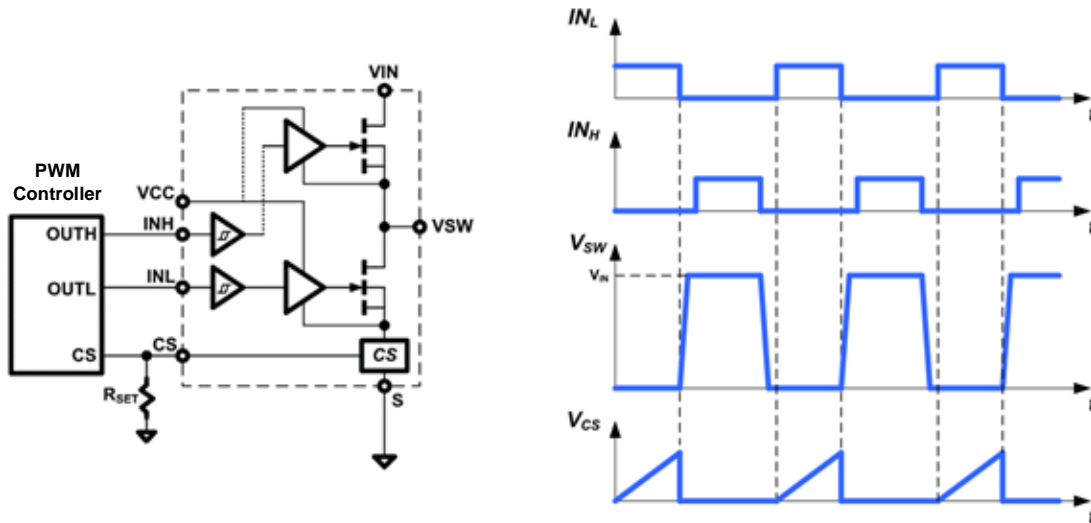

Fig. 29. External resistor sensing vs. GaNSense™ Technology
For many applications it is necessary to sense the cycle-by-cycle current flowing through the low-side GaN power FET. Existing current sensing solutions require a current sensing resistor to be placed in between the source of the low-side GaN power FET and P_{GND}. This resistor method increases system conduction power losses, creates a hotspot on the PCB, and lowers overall system efficiency. To eliminate this external resistor and hotspot, and increase system efficiency, this GaN Half-Bridge IC includes GaNSense™ Technology for integrated and accurate loss-less current sensing. The current flowing through the internal low-side GaN power FET is sensed internally and then converted to a current at the current sensing output pin (CS). An external resistor (R_{SET}) is connected from the CS pin to the Source (P_{GND}) and is used to set the amplitude of the CS pin voltage signal (Fig. 29). This allows for the amplitude of the CS pin signal to be programmed so it is compatible with different controllers with different current sensing input thresholds.